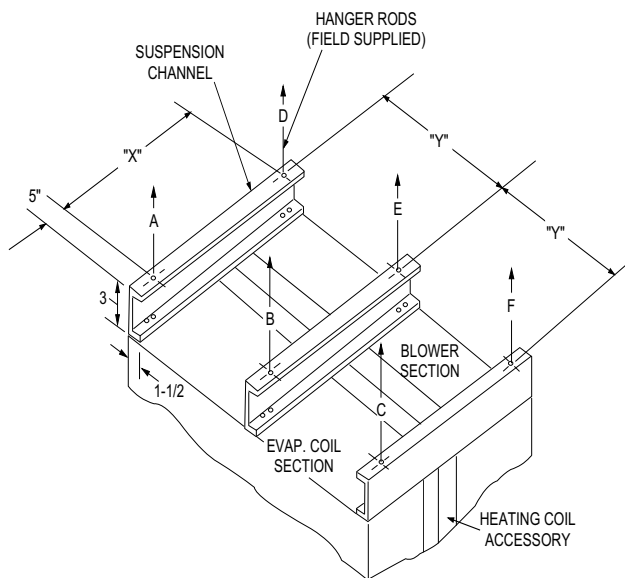

FIGURE 3: SUSPENSION ACCESSORY ARRANGEMENT
3. Place suspension channels on the unit and secure with the bolts, spacers, nuts and washers provided. See Figure 3.